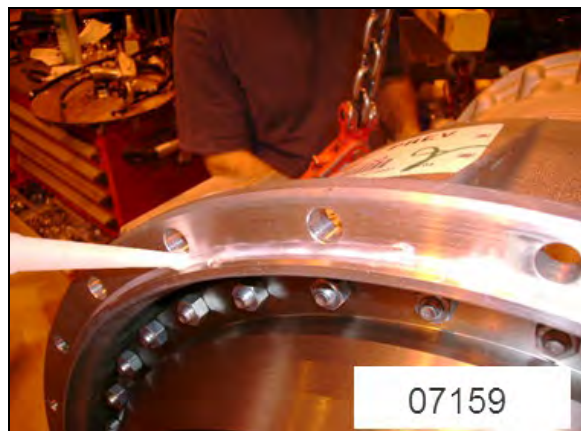

**FIGURE 11: SPACER INSTALLATION**
4. Apply clear silicone (Prevost #680457 or equivalent) on the spacer and install it on the engine housing (Figure 11).